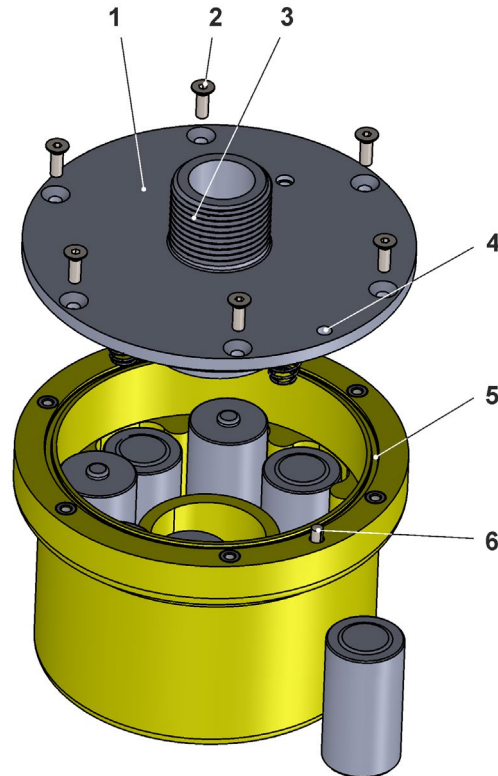

Fig. 23-1 Open / close enclosure
- The countersunk screws Torx TX20 (6x) (Fig. 23-1 Pos. 2) are freely accessible.
2. Unscrew the countersunk Torx TX20 (6x) screws (Fig. 23-1 Pos. 2) **crosswise step by step** (high counter-pressure from the inside due to the batteries/springs, therefore **hold** with your hand **before** removing the last two countersunk screws!) on the housing/battery compartment cover (Fig. 23-1 Pos. 1).
1. Check the enclosure gaskets (Fig. 23-1 Pos. 5) and clean if necessary. Before closing the enclosure/battery compartment cover, always make absolutely sure that the gasket is clean and undamaged. Therefore:
3. Fit the enclosure/battery compartment cover (Fig. 23-1 Pos. 1) (note the alignment bolt (Fig. 23-1 Pos. 6) and corresponding hole (Fig. 23-1 Pos. 4)) and screw it on **crosswise step by step in several twists** using the countersunk Torx TX20 (6x) screws (Fig. 23-1 Pos. 2) (high counter-pressure from the inside due to the batteries/springs).